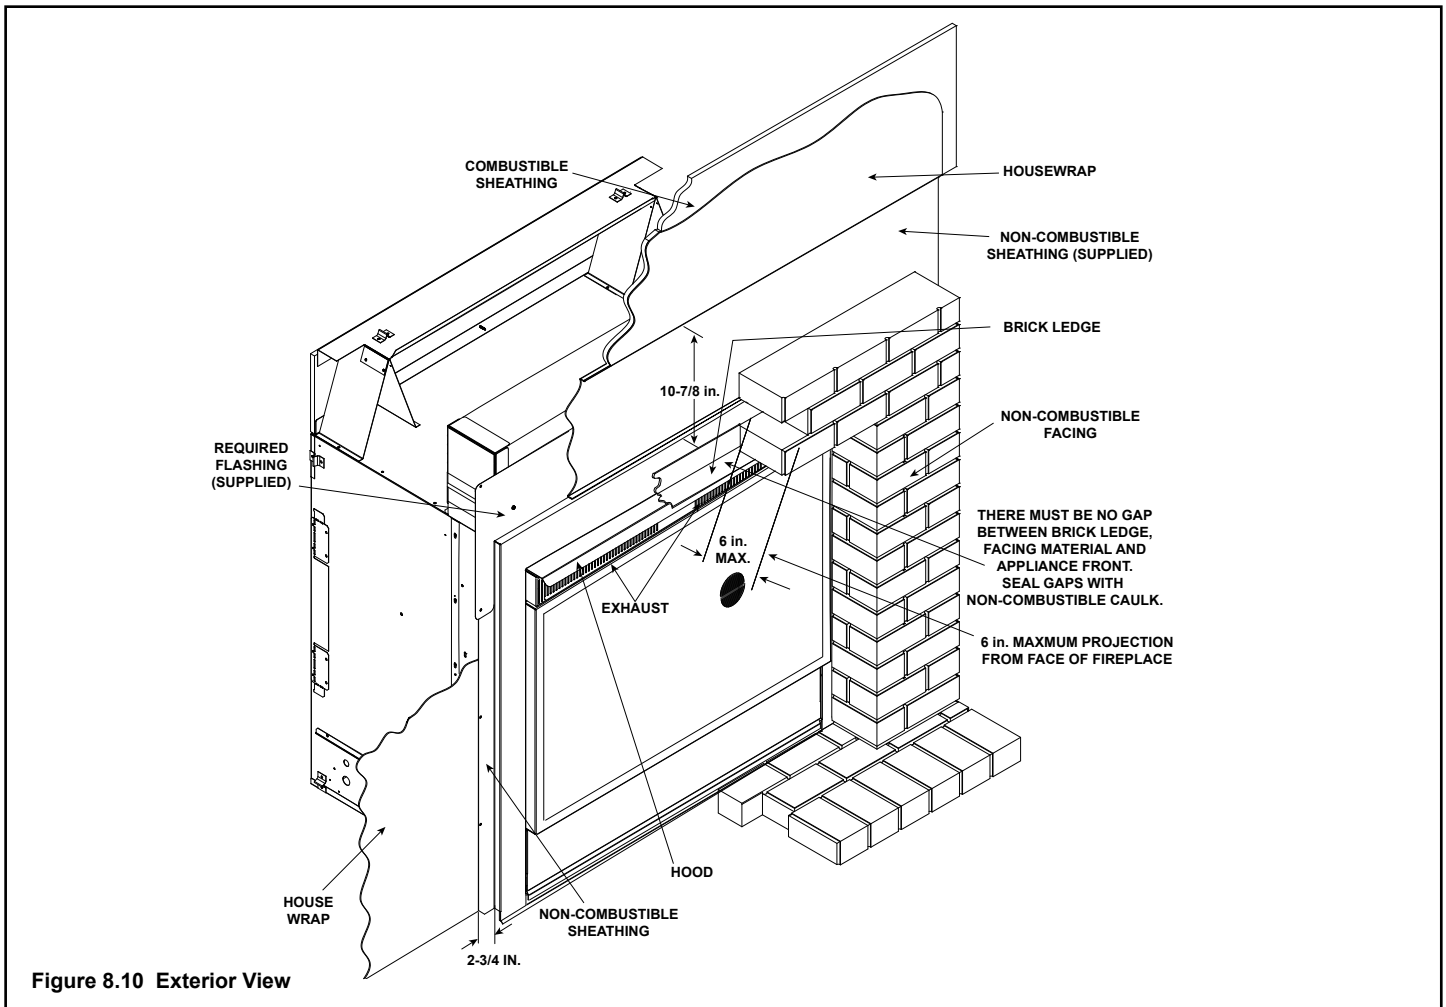
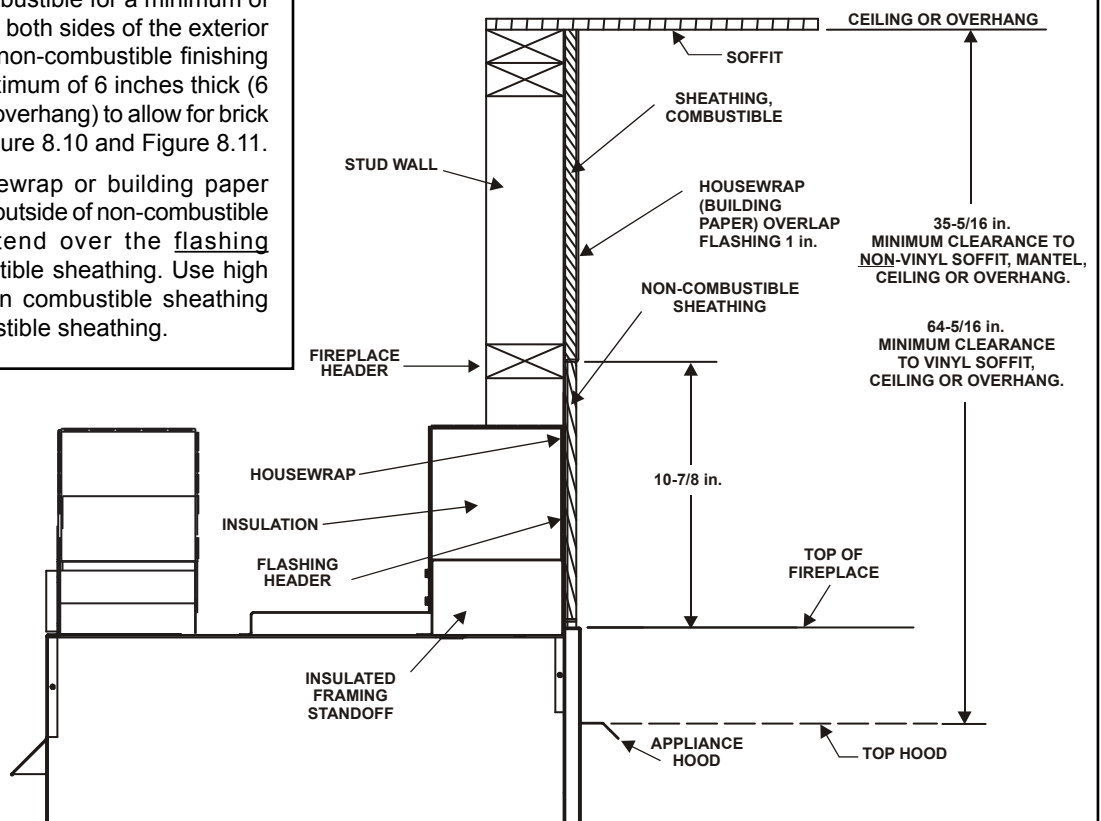

Figure 8.10 Exterior View
Figure 8.11 Exterior View
May install non-combustible materials to cover gap between facing material and appliance (see Figure 8.10).
**NOTE:** All finishing materials on top of exterior sheathing must be non-combustible for a minimum of 10-7/8 inches above and on both sides of the exterior face of the appliance. This non-combustible finishing material can be up to a maximum of 6 inches thick (6 inches maximum horizontal overhang) to allow for brick and stone alcoves. See Figure 8.10 and Figure 8.11.